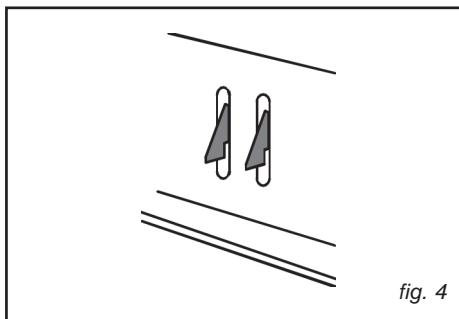

fig. 4
- Check that the fixing tabs (Fig. 4) to the wall unit are positioned at a height suited to the thickness of the bottom of the wall unit. If this distance is less than the thickness, increase it by unscrewing the 2 corresponding screws inside the hood.